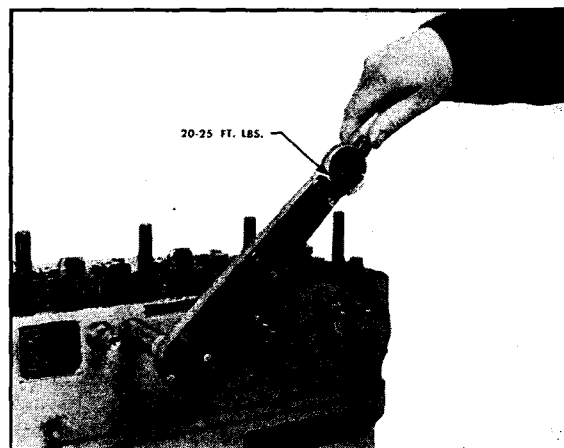

Fig. 12-50. Tightening inlet and drain connections
6. Tighten fuel inlet and drain connections to 20-25 foot-pounds. Loose connections will result in dilution of lubricating oil. If tightened too tight, threads in injector body may be stripped. Fig. 12-50.